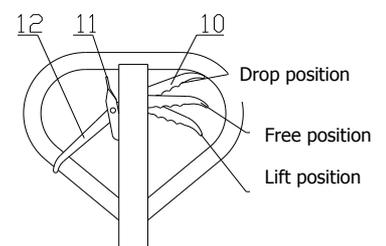

Fig. 5
4.1 After the truck is assembled, try to rock the hand grip and operate different positions of control handle knob 10 to examine the lifting, free position and dropping and check that whether the different positions are normal or not. See fig 5.
- 5.3 See fig 5, when hand knob 10 is placed on the lift position, the truck will be in a state of lift. At this time, if you rock the hand grip, the truck will be lifted.
- 5.4 See fig 5, when hand knob 10 is placed on the free position, the truck will travel. At this time, if you rock the hand grip, the truck will neither lift nor drop. Then, you can use the truck to move the cargo.
- 5.5 See fig 5, when the hand knob 10 is placed on The drop position, truck forks will drop. At this time, the truck forks will drop automatically.
- 5.6 See fig 5, when the hand knob 12 is placed blow, the truck will be in a state of free walking.
- 5.7 See fig 5, when the hand knob 12 is placed above, the truck will be in a state of brake.
- 5.8 See fig 5, hand knob 11 is used for release brake.